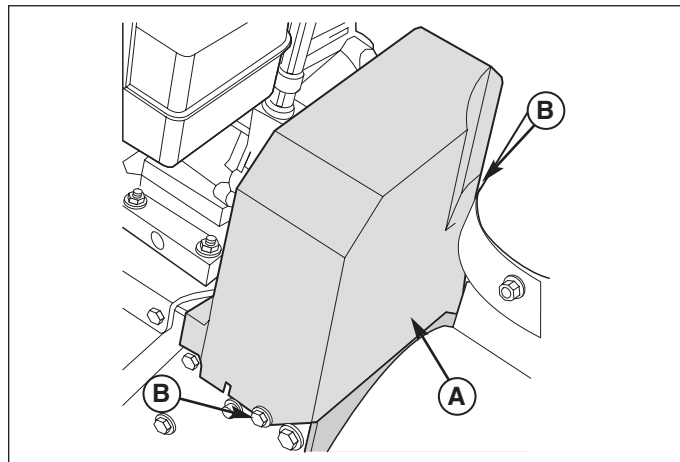
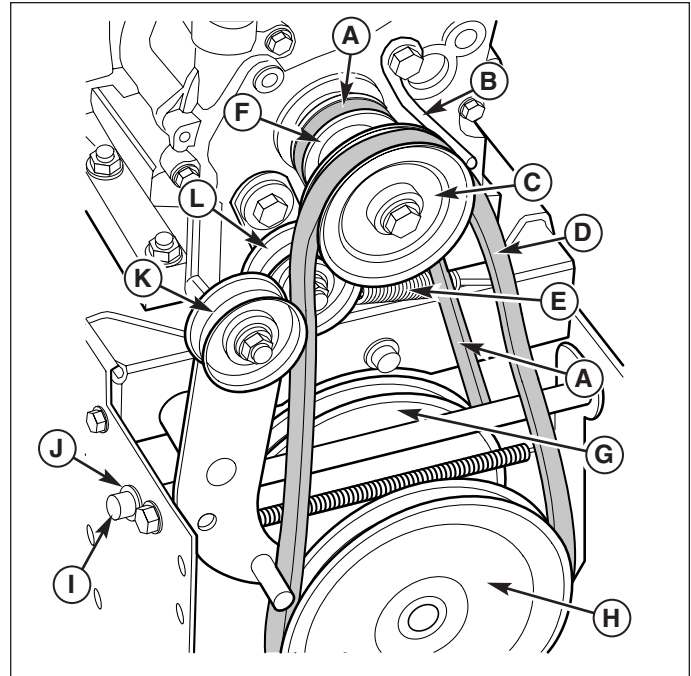
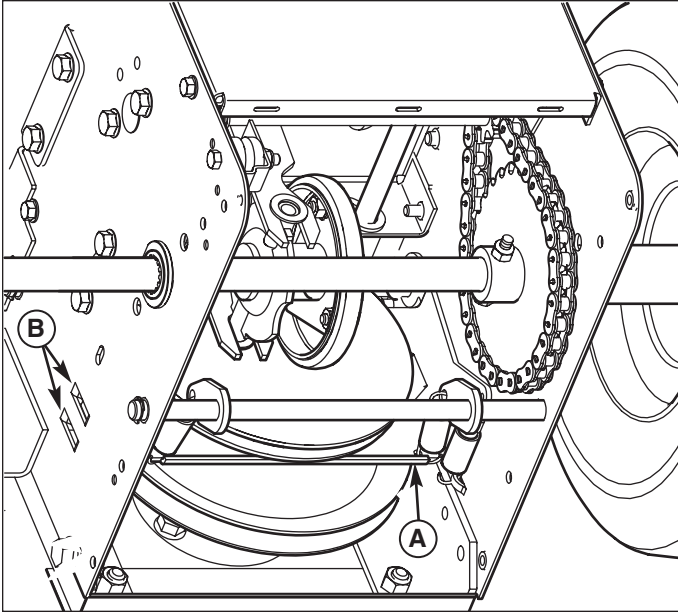

Figure 9. Belt Cover
Figure 12. Pulleys and Belts
Figure 18. Traction Belt Change
2. Loosen screw (B, Figure 9) from belt cover (A). Remove belt cover (A).
6. Reinstall belt cover (A, Figure 9) securing with screws (B).
5. Loosen the belt guide (B, Figure 12). Pull the belt guide away from the auger drive pulley (A).
6. Pull the auger idler pulley (K) away from the auger drive belt (D) and slip the belt off of the idler.
7. Remove the auger drive belt (D) from the engine pulley. To remove the auger drive belt (D), the auger drive pulley (C) may have to be partially rotated.
13. Remove the old auger drive belt (D, Figure 12) from the impeller pulley. Replace the auger drive belt with an original factory replacement belt available from an authorized service center.
14. Install the new auger drive belt (D) onto the impeller pulley.
19. Install the auger drive belt (D, Figure 12) onto the impeller pulley (H).
20. Slip the auger drive belt (D) under the idler pulley (K).
23. Install the belt cover (A, Figure 9). Tighten 1/4-20 screws (B) to 25-35 lb-in (2,8-3,9 Nm).
3. Remove the traction drive spring (E, Figure 12).
4. Remove the e-ring (J, Figure 12) from one end of the swing plate axle rod (I).
5. Remove the swing plate axle rod (I) to allow the swing plate (A, Figure 12) to pivot forward.
6. Remove the old traction drive belt (A) from the traction drive pulley (G) and from the traction drive pulley (F). Replace the traction drive belt (A) with an original factory replacement belt available from an authorized Dealer.
7. Install the new traction drive belt (A) onto the traction drive pulley (G) and onto traction drive pulley (F).
8. Make sure the traction drive idler pulley (L) is properly aligned with the traction drive belt (A).
9. Install the swing plate axle rod (I) and secure with the e-ring (J) removed earlier.
10. The bottom of the swing plate (A, Figure 18) must be positioned between the alignment tabs (B). Make sure the swing plate is properly secured.
11. Attach the traction drive spring (E, Figure 12).